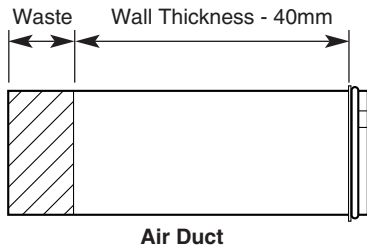

Fig. 24
4. Measure the same amount from the flange end of the **Air Duct** and cut the waste off the plain end (Fig. 24).